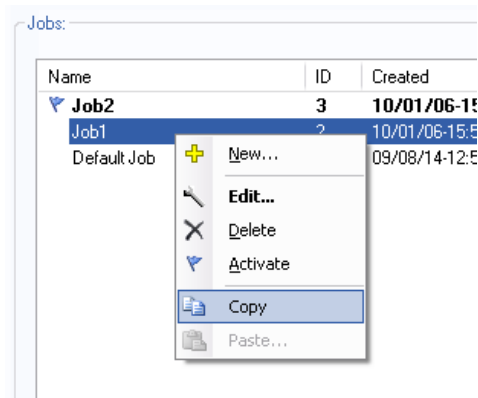

Figure 5-5 - Copying a job
- Right-click the job and select *Copy* (see FIGURE 5-5)